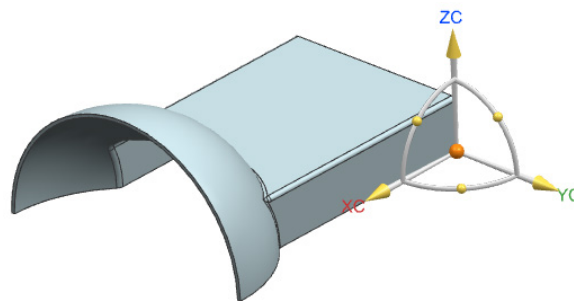

Figure 16-95 The WCS after positioning
3. Position the WCS, as shown in Figure 16-95.